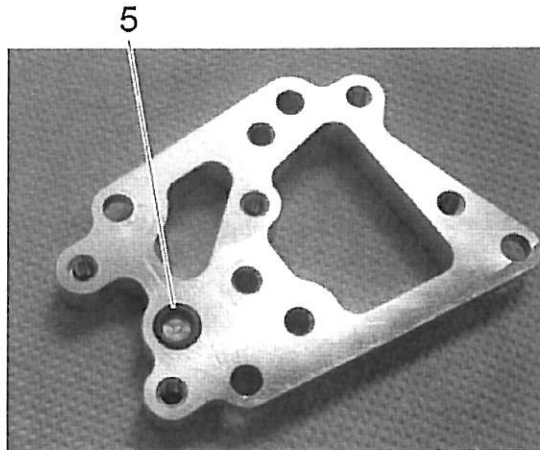

Figure 7
3. Fit one O-ring (item 5) to the adaptor plate (item 1). See Figure 7.